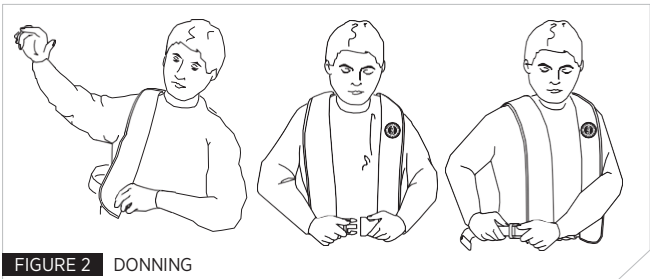

FIGURE 2 DONNING
- Ensure the manual pull-handle is stowed securely (Fig. 2).
2. Put the flotation device on just like a jacket (Fig. 2) and fasten the front buckle. Adjust the waist belt using the side buckle on the belt and secure the belt's loose end in the belt loop.